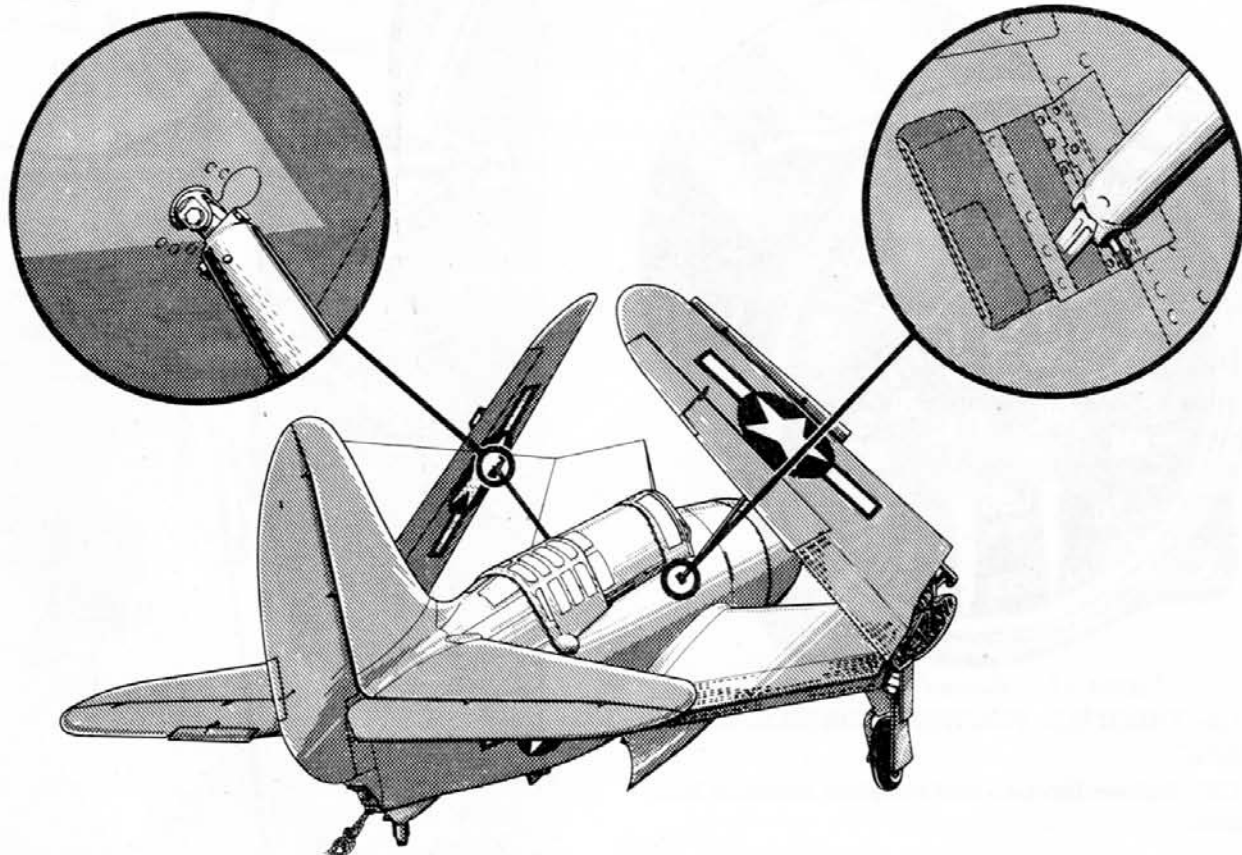

Figure 50 — Jury Strut Attachments
**b. INSTALLING JURY STRUTS.**—If the airplane is to be parked with the wings folded, the jury struts must be installed. Swing back the cover plate over the fitting in the outer panel (figure 50). Insert one end of the jury strut in the fitting and turn the strut one-quarter turn clockwise. Then open the little door over the fitting in the fuselage, swing out the fitting and attach the other end of the strut to it as